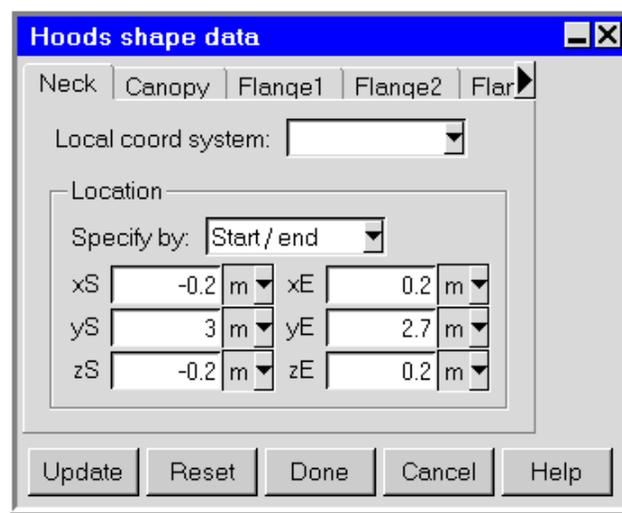

Figure 18.3.2: The Hoods shape data Panel (Neck Tab)
- (a) Deselect Fix shapes in the Properties tab and click Edit details to open the Hoods shape data panel (Figure 18.3.2).
- (d) To specify the neck in the hood, click the Neck tab (Figure 18.3.2). Select Start/end and enter values for the start coordinates (x_S , y_S , z_S) and end coordinates (x_E , y_E , z_E) of the neck. Alternatively, you can select Start/length and enter values for the start coordinates (x_S , y_S , z_S) and lengths of the sides (x_L , y_L , and z_L) of the neck.